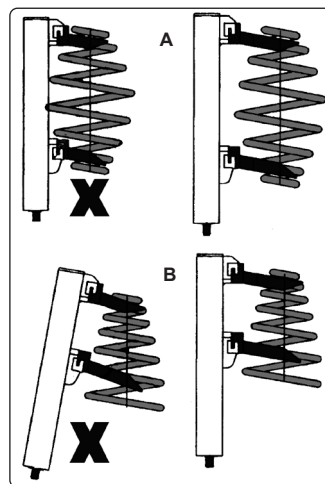

fig.3
- 5.1. Ensure the jaws and the body of the compressor are correctly aligned at all times during spring compression fig.3.A. For conical springs, the centre line of the spring should remain parallel to the compressor body, fig.3.B.
- 5.4.4. Ensure the jaws and body are correctly aligned, fig.3 / 4.